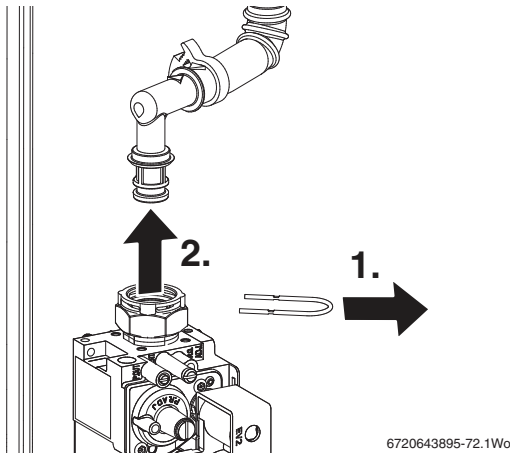

Fig. 72 Gas valve upper connection
- 1. Refer to figure 72 and re move the wire clip from the gas valve outlet.
- ▶ Remove wire clip from gas valve outlet then pull gas pipe free from the gas valve (see figure 72).